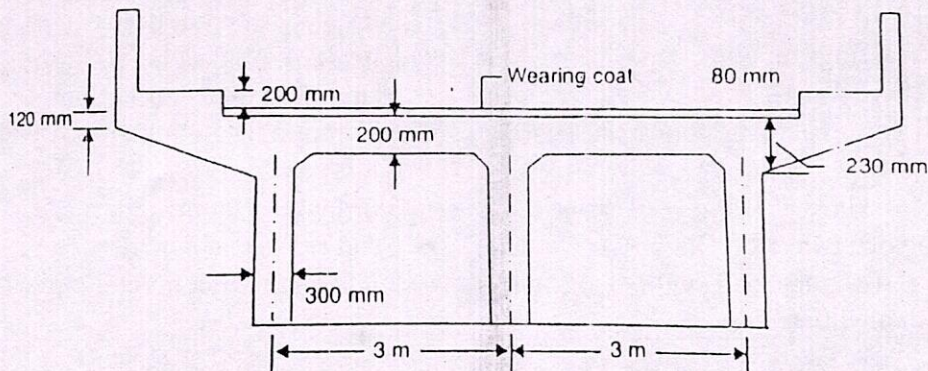

Figure-1
II. A T-beam bridge (Figure-1) has to be provided across a channel with the following data.
- III. For the longitudinal girder of T-beam bridge in Figure-1, calculate the design moment for IRC Class AA loading. [10]